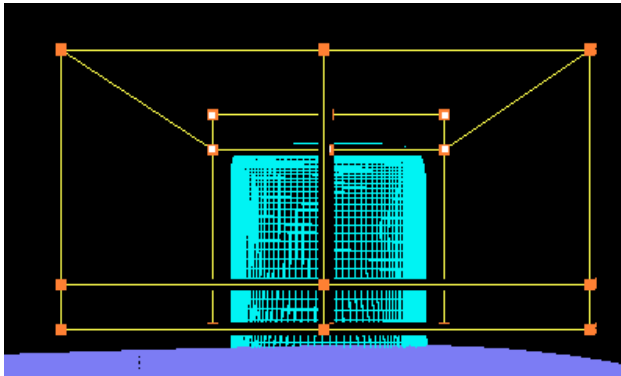

Figure 21.1
- Now switch on group 2, kill everything in it. Add group 1 corners to it and span out 1 layer as seen in figure 21.1.